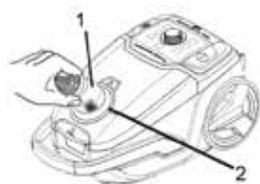

Fig.2
1. Insert the end of the suction hose (Fig. 2/1) into the intake opening (Fig. 2/2) of the vacuum cleaner, until it locks with an audible click.